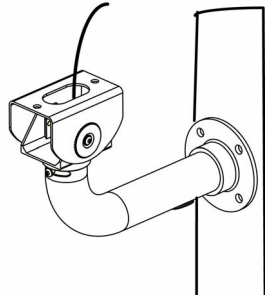
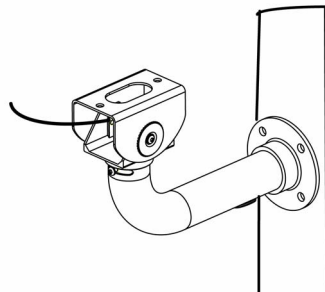

Fig. 6.1 Feeding the Wire using the Bottom NPT Fittings
Fig. 6.2 Feeding the Wire using the Rear NPT Fittings
2. Insert the coax and power lead wires from the wall through the supplied J-mount allowing enough slack to pull through the housing (see *Figure 6.1* on page 9 if using the bottom glands or see *Figure 6.2* on page 9 if using the rear glands).